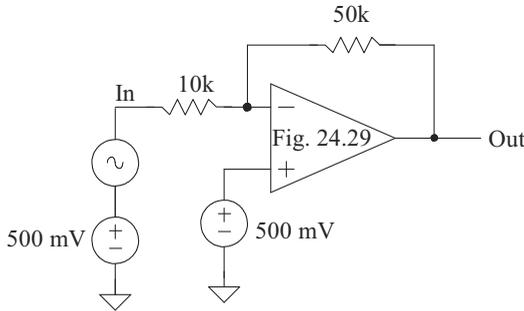
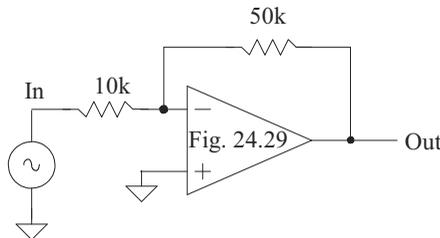

Figure 24.65 Amplifier used for Problem 24.10.
Figure 24.66 Amplifier used for Problem 24.11. What's wrong with this topology?
- 24.10** The op-amp seen in Fig. 24.29 has a gain-bandwidth product (f_{um}) of about 100 MHz. Suppose that this op-amp is used in the amplifier seen in Fig. 24.65 (gain of -5). Estimate the amplifier's closed loop bandwidth (where the output of the amplifier is -3 dB down from its low-frequency value) using Eq. (24.34). Verify your results using simulations (transient analysis). What are the maximum and minimum voltages allowable for an input sinewave if the output voltage of the amplifier must lie between 100 and 900 mV?
- 24.11** Suppose it is decided to eliminate the 500 mV common-mode voltage in the amplifier seen in Fig. 24.65 and use ground, as seen in Fig. 24.66. Knowing that the input voltage can only fall between ground and V_{DD} , what is the problem one will encounter?